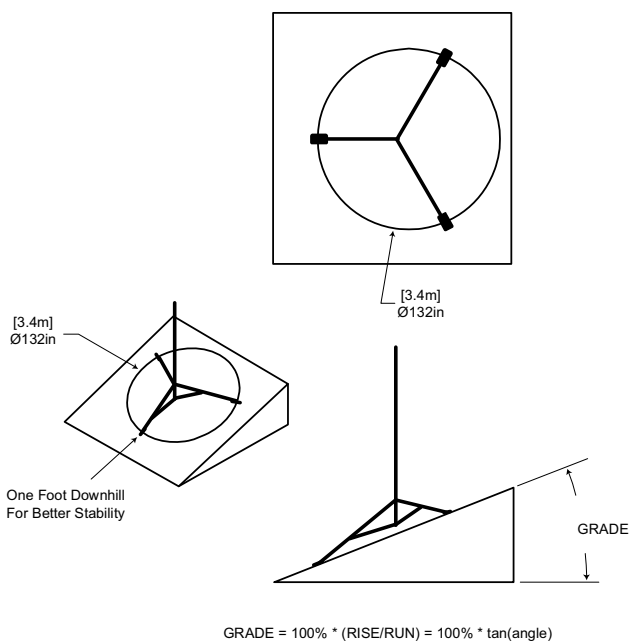

FIGURE 2-2. Comparison of One Leg Pointing Downhill (right) Versus Two Legs Pointing Downhill
- Using a 1/4-20 x 1.75" bolt and 1/2-20 nylock nut, attach a foot to each tripod leg (Figure 2-2).
Loosen the bolts on the clamp brackets. With the legs extended, orient the tripod so that one leg points downhill and the other two legs point uphill. The tripod is more stable with only one leg pointed downhill because the mast is closer to the center of the footprint (see Figure 2-2). Tighten the bolts on the clamp brackets to lock the legs in place.